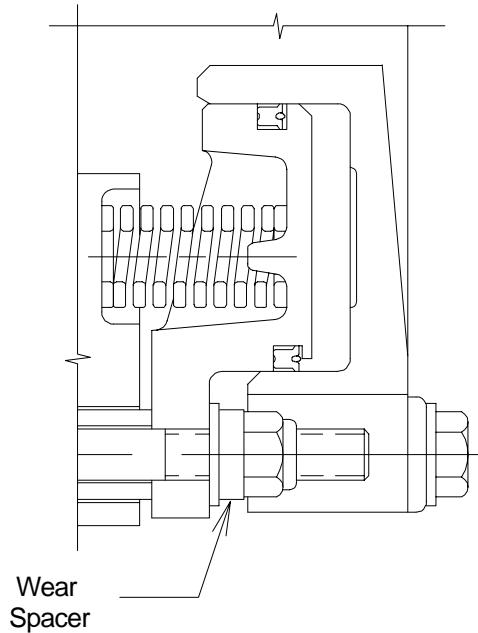

Figure 11
- 4.2.19 Lubricate the threads on the ends of the studs with 30 wt. oil or anti-seizing compound and install the locknuts (18), washers (17) and the wear spacers removed in 4.2.5. The wear spacers are "stored" under the locknuts for use after replacing friction discs. See Figure 11.